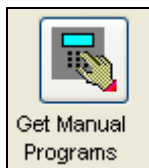

Figure 17.0.3
3. From the List of icons to the right of the "Speed Communications" screen select the **Get Manual Programs** icon (Figure 17.0.3).